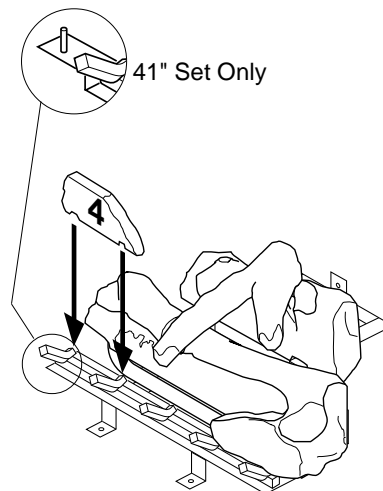

Figure 51 - Installing Log No. 4
4. Place log #4 (small log) onto the front left part of the grate making sure the notches fits over the prong of the grate (and hole over pin on 41" set). See Figure 51.